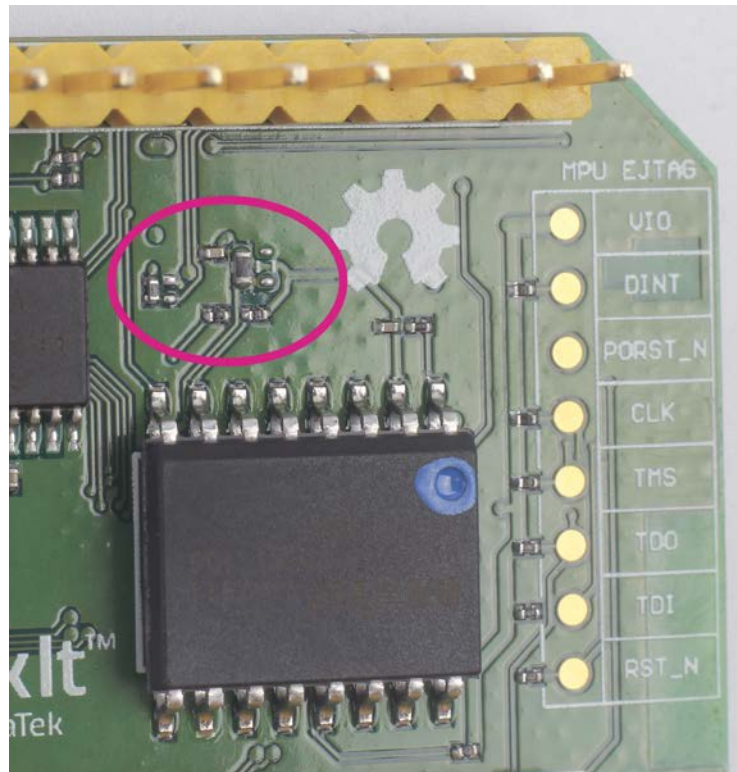

Figure 4 JTAG resistors on the bottom of the LinkIt Smart 7688
- 1) Find the group of resistors on the bottom of LinkIt Smart 7688 in the upper-right, as circled in Figure 4.